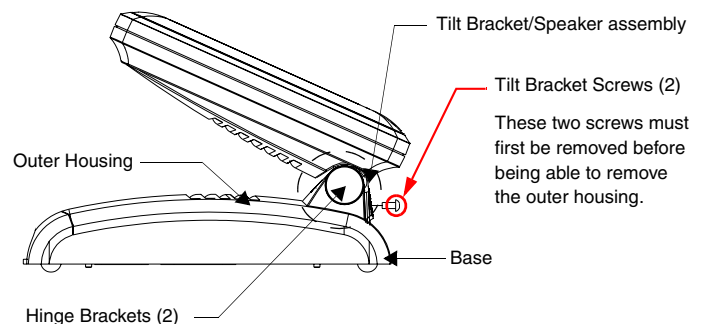

FIG. 7 Location of the attachment screws underneath an NXT panel base
5. Gently tilt the LCD panel backwards to expose the Tilt Bracket/Speaker assembly (FIG. 7).
6. Locate the two screw holes at either sides of the front speaker grill and then use a grounded Phillips-head screwdriver to remove the two Tilt Bracket Screws (FIG. 7).
Without this step, the Hinge brackets (FIG. 7) present an obstacle to the removal of the outer housing and restrict access to the circuit board.
2. Locate the two screw holes at either sides of the front speaker grill and then use a grounded Phillips-head screwdriver to both insert and secure the two Tilt Bracket Screws (FIG. 7). This procedure re-secures the rear Tilt Bracket cover plate (*with the AMX logo and Hinge brackets*).
3. Press the outer housing forwards until it is aligned over the outer housing installation holes. Once installed and secured, the tilt bracket prevents any further movement (FIG. 7).